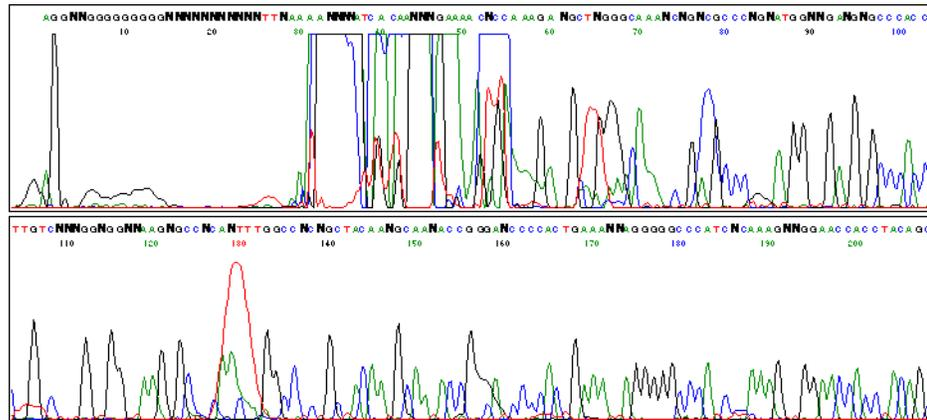

Figure 7-68 Incorrect Peak 1 Location and Start Point (both set to 963 scans)
If these sequence peaks are obscured by peaks from unincorporated dye terminators and/or other fluorescent peaks are present before the start of the real sequence, the software can assign the Peak 1 location and Start Point too early (Figure 7-68 on
Large peaks can also cause problems in scaling the analyzed data. For example, in Figure 7-68 a very large red (T) peak at base 130 resulted in all other red peaks appearing very small.